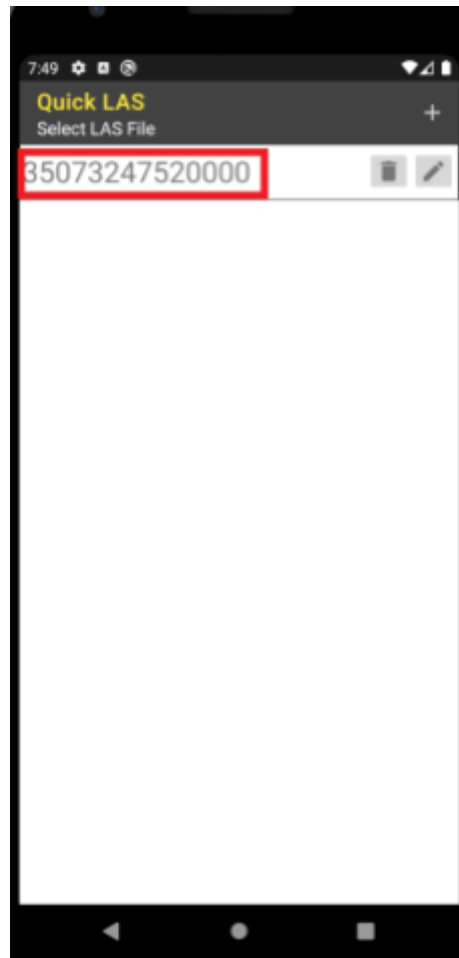

Figure 9
24. You are now back at the main “Select LAS File” screen. Press anywhere on the UWI number outlined in red in **Figure 9** to graph the curves.